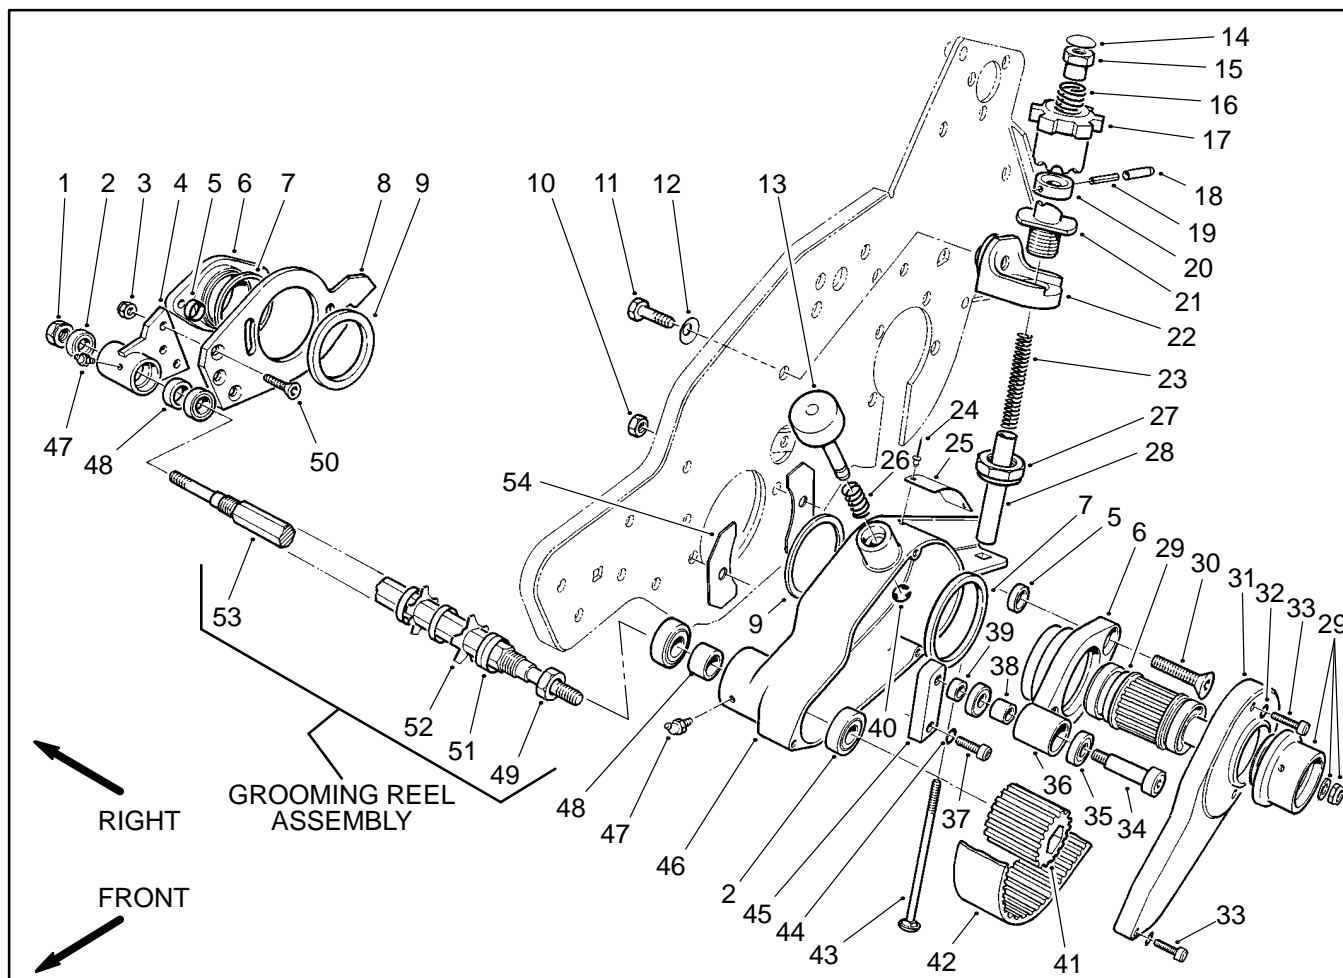
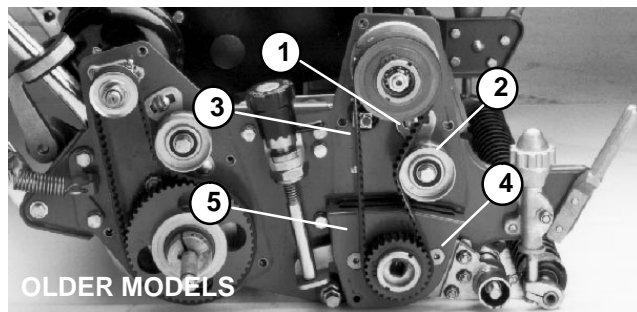
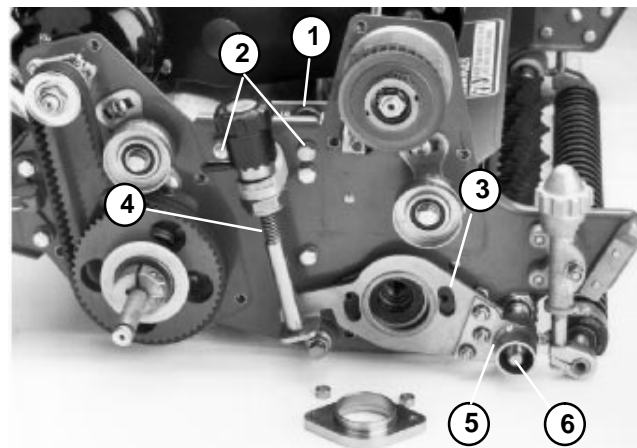

Figure 17
Figure 22
Figure 23
4. On older models, loosen both carriage bolts securing the reel idler bracket to the frame. Pivot idler pulley assembly away from the reel drive belt. (Fig. 22).
5. Secure cutting reel from turning with a block of hard wood. Use a 1/2-inch drive ratchet with an extension to remove the drive pulley and drive belt from the cutting reel shaft (Fig. 22).
6. From the right side of the mower, remove the following (Fig. 17):
A. Remove lock nut (1) securing the shaft (53) to the bearing housing (4).
B. Use allen wrench to remove both flat head screws. Remove groomer arm cover from reel bearing housing (Fig. 22).
C. Remove adapter (6), bearing (7) if necessary, spacers (5), and adapter ring (9) from the side plate (8).
7. On both sides of the mower (Fig. 23),
C. Remove cap screw (11) and belleville washer (12) (inside of frame) securing mounting block (22) to the mower frame (Fig. 17).
9. Remove the three socket head cap screws (33) and lock washers (32). Remove belt cover (31) from the belt drive housing (46) (Fig. 17).
10. In the belt drive housing (46), disassemble the following parts (Fig. 17):
A. Loosen socket head cap screw (37) and idler pulley (36), then remove drive belt (42) from the driven pulley (41).
13. Pull side plate with the groomer adjuster and bearing housing from the grooming reel shaft and reel bearing housing (Fig. 23).